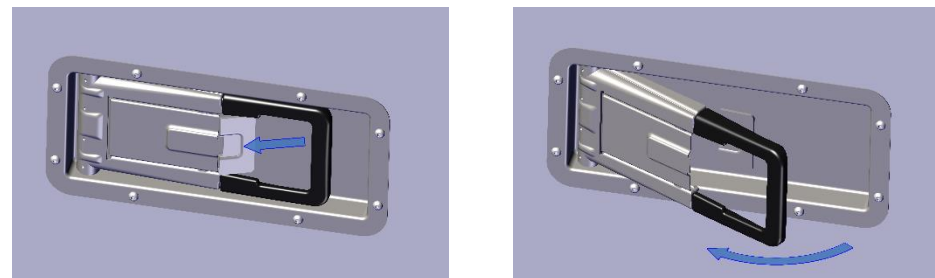

Figure 18 – Door handle opening.
1. Press the lock on the handle to release it (Figure 18);
2. Pull the handle (Figure 18);